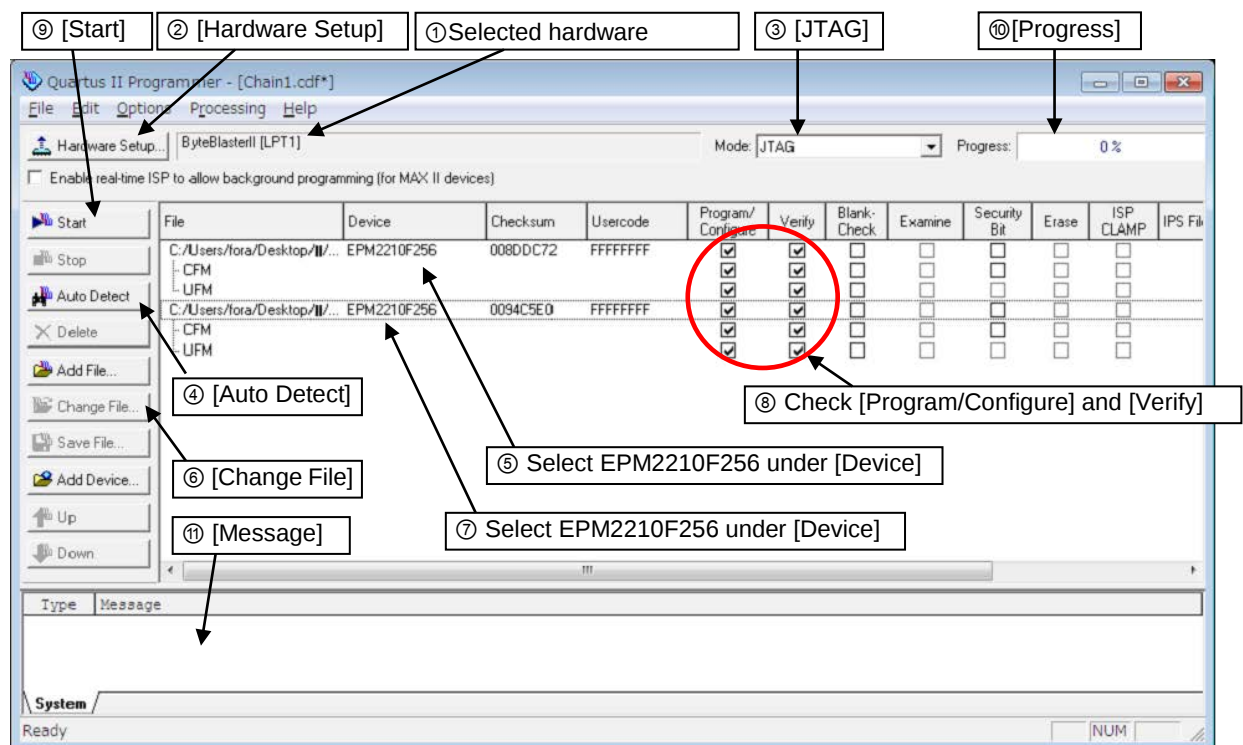

Fig. 20 CPLD Update Screen (FA-10DCCRU)
5. Verify that **ByteBlasterII** (or **USB Blaster**) is selected (Fig. 20 ①)
6. If **ByteBlaster II** that is connected to PC is not selected, or "**No Hardware**" is displayed, click **[Hardware Setup]**(Fig. 20 ②) and select the connected **ByteBlasterII** (or **USB Blaster**).
7. Select **[JTAG]** under **[Mode]** (Fig. 20 ③).
9. Click **[Auto Detect]** (Fig. 20 ④).
10. After connected devices are displayed on the screen, select the upper "**EPM2210F256**" displayed under **[Device]** (Fig. 20 ⑤), then click **[Change File]** and select the latest pof file (PM9314-X) (Fig. 20 ⑥).
11. Select the lower "**EPM2210F256**" displayed under **[Device]** (Fig. 20 ⑦), then click **[Change File]** and select the latest pof file (PM9315-X).
12. Check **[Program/Configure]** and **[Verify]** (Fig. 20 ⑧).
13. Click **[Start]** to start updating (Fig. 20 ⑨)
14. If **[Progress]** indicates 100% (Fig. 20 ⑩) and no error sign (in red) appears on the status bar at the bottom of the window (Fig. 20 ⑪), the update is complete.